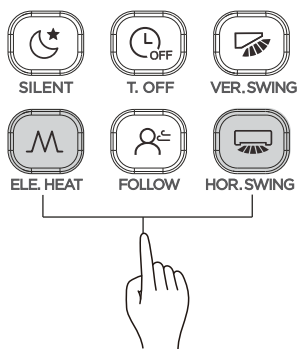

Figure 3.19
- 1) Press  and  at the same time to lock the button (see Figure 3.19), and the screen will display the lock icon ;